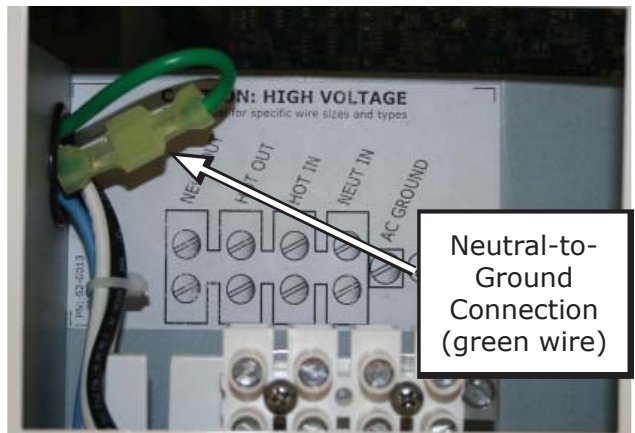

Figure 2-16, Disconnecting the Neutral-to-Ground Connection
When AC on the boat is being supplied by shorepower, the onboard neutral should be connected to safety ground on the dock. Consequently, neutral and safety ground should not be connected anywhere on the boat when shorepower is present. When AC on the boat is being supplied by the MS-PE Series inverter, the inverter's output neutral is connected to safety ground through an internal relay using its neutral-to-ground connection (see Figure 2-16).
2. Look inside and locate the green wire with the insulated connector at the top of the AC wiring compartment; see Figure 2-16. This insulated connector connects the neutral and ground inside the inverter.